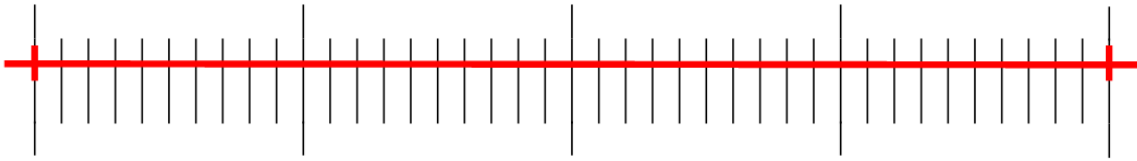

Figure 5-8
4. The minimum range of the selected micrometer is 0.01 mm (10 micron). Figure 5-8 shows the image under a tenx objective lens. At this time, the "magnification" is set to "10X", the "unit" is marked as " μm ", and the "length" is set to "40".